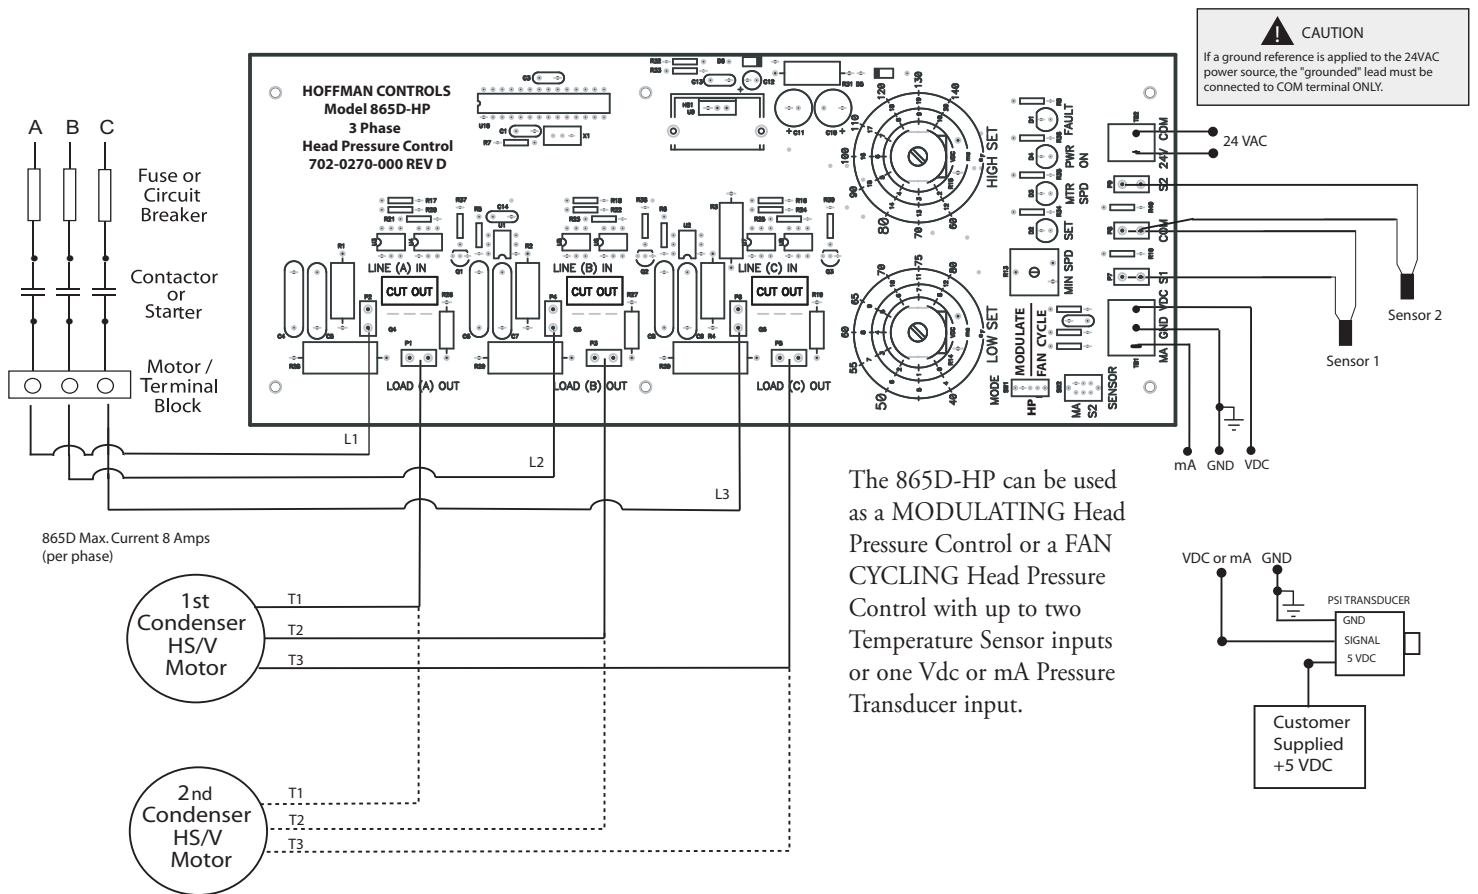

Figure 2 - Field Wiring Diagram
The **LOW SET** point and **HIGH SET** point adjustments are critical settings for proper heat rejection in low ambient conditions. The 865D-HP control maintains the pressure differential at the expansion valve for proper superheat. The **LOW SET** and **HIGH SET** point potentiometers have three scales that provide settings for temperature (40°-140° F), mA (4 -20) and VDC (0 - 10). Use the scale and input signal that is appropriate for the application. Refer to **Figure 2, "865D-HP Field Wiring Diagram"** (on page 5).
- Step 4** Install Line and Low voltage wiring along with Sensor wiring, as shown in Figure 2, Field Wiring Diagram (on page 5) and the instructions below.